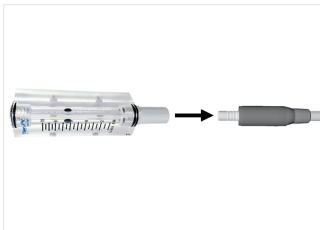

FIG. 5
4. Place the flowmeter on the nose attachment then activate the cooling air and measure the airflow. The value is measured in the middle of the flowmeter's ball according to standard JIS B7551. FIG. 5.